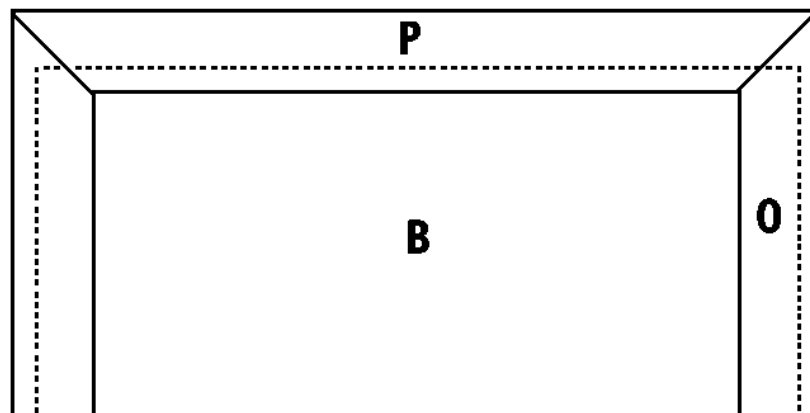

Figure 10
5. Apply glue to the meeting surfaces and attach the Base Supports (O and P) to the bottom (B), as shown in *Figure 10*. Use 1-5/8" wood screws spaced about 5 inches apart.